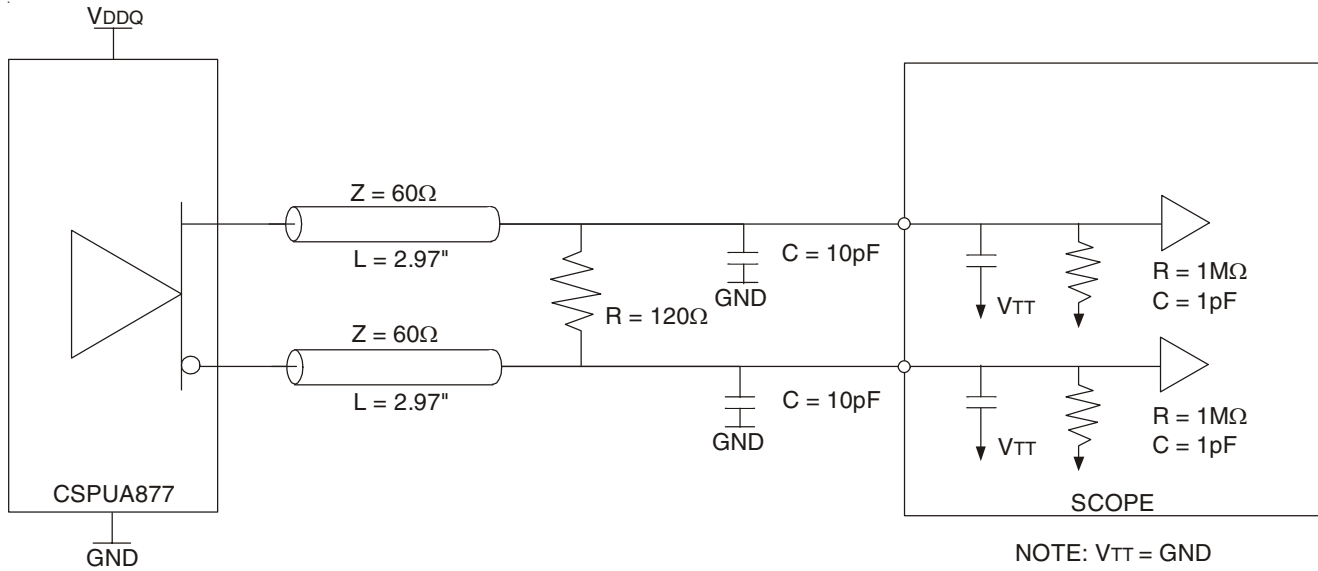

Figure 1: Output Load Test Circuit 1
- There are two different terminations that are used with the above AC tests. The output load shown in figure 1 is used to measure the input and output differential pair cross-voltage only. The output load shown in figure 2 is used to measure all other tests, including input and output slew rates. For consistency, use 50 Ω equal length cables with SMA connectors on the test board.
- In the frequency range of 271 - 410MHz, the min and max values for t_{JIT(PER)} and t_{(\emptyset)DYN}, and the max value for tsk(O), must not exceed the corresponding min and max values of the 160 - 270MHz range. Also, the sum of the specified values for | t_{JIT(PER)} |, | t_{(\emptyset)DYN} |, and tsk(O) must meet the requirement for Σ t_(SU), and the sum of the specified values for | t_{(\emptyset)DYN} | and tsk(O) must meet the requirement for Σ t_(H).